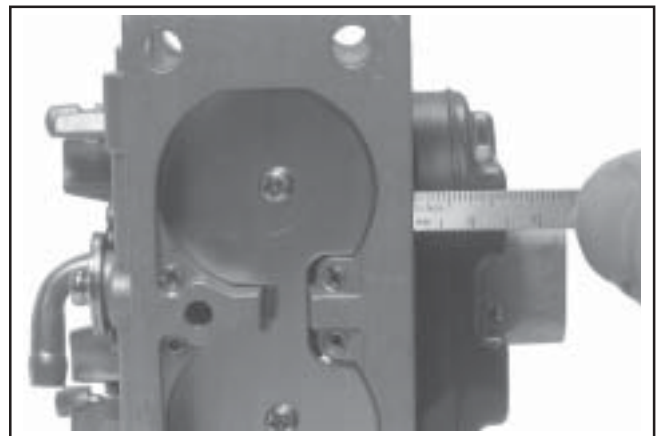

Figure 5-31. Checking Float Height.
15. The correct float height setting is **17 mm (0.669 in.) ± 1.5 mm (0.059 in.)**, measured from the float bottom to the body of the carburetor. See Figure 5-31. Replace the float if the height is different than the specified setting. Do not attempt to adjust by bending float tab.